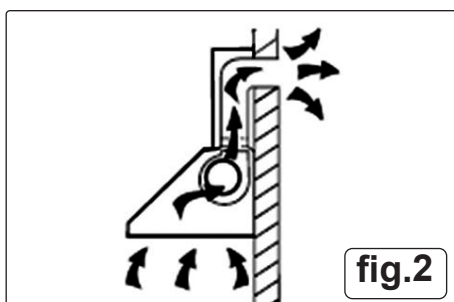

fig.2
- If you have an outlet to the outside, your cooker hood can be connected as per fig.2 by means of an extraction duct (enamel, aluminium, flexible pipe or non-flammable material with an interior diameter of 120/150mm).